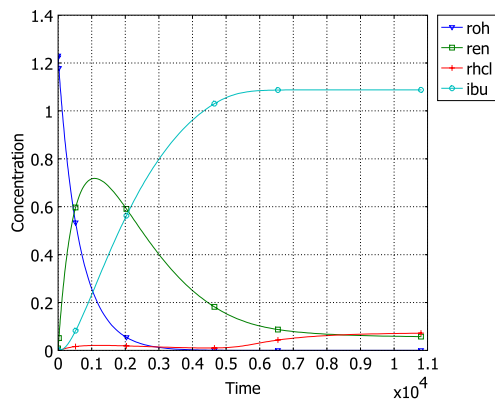

Figure 4-69: Selected species concentrations (mol/m³) as a function of time (s).
Figure 4-69 shows the concentration profiles for selected reactants and products over time.
- 7 Click **OK** to generate Figure 4-69.